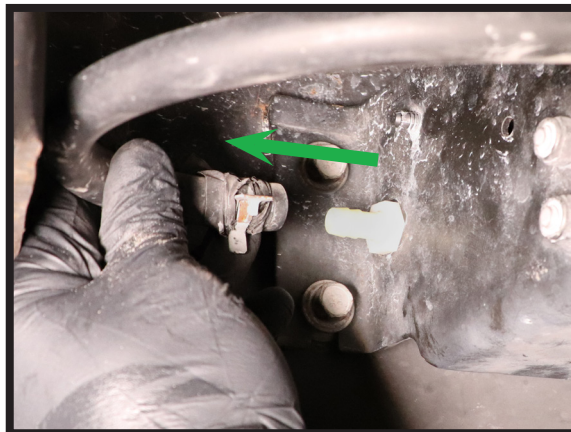

FIGURE 5
5. DISCONNECT EXHAUST LINE FROM COMPRESSOR/VALVE BLOCK ASSEMBLY. (FIGURE 5)